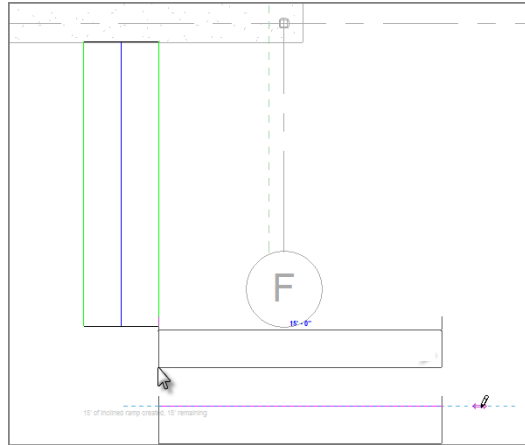

FIGURE 10.87: The second leg of the ramp
19. Pick a point about 6'-0" (1800mm) below the end of the ramp, in alignment with the right boundary, as shown in Figure 10.87. After you pick the second point, the view should read "30' (10000mm) of inclined ramp created, 0 remaining."
20. Move your cursor to the right until the ramp stops (see Figure 10.87).